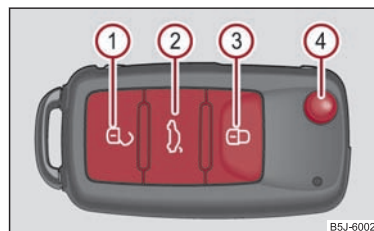

Fig. 31 Remote control key
- Press the button ① ⇒ fig. 31 for about 1 second.
- Press button ② for about 1 second ⇒ fig. 31.